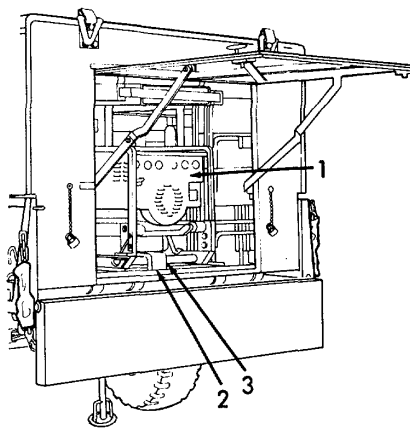

Figure 2-69. Generator Set, Installation.
i. Loading the Generator Set (Refer to Figure 2-69).